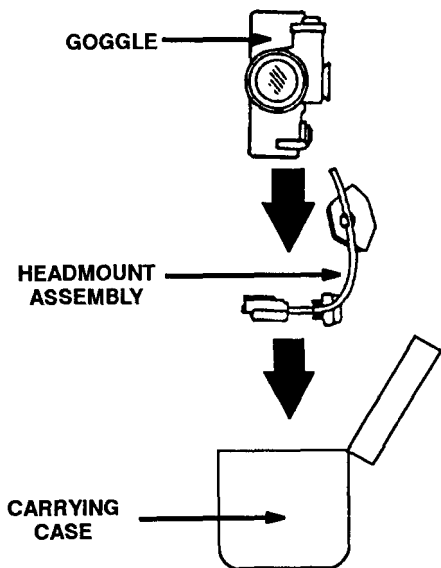

Figure 2-20. AN/PVS-7A Storage in Carrying Case.
- h. Replace all equipment in the carrying case as shown in Figure 2-20.